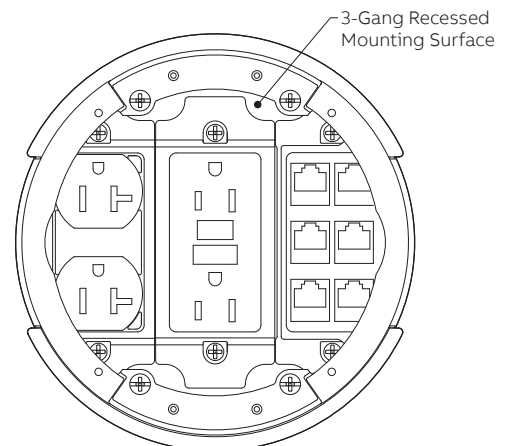

Figure 19
- 7.7 Figure 19 shows top view with all Power and Data installed.